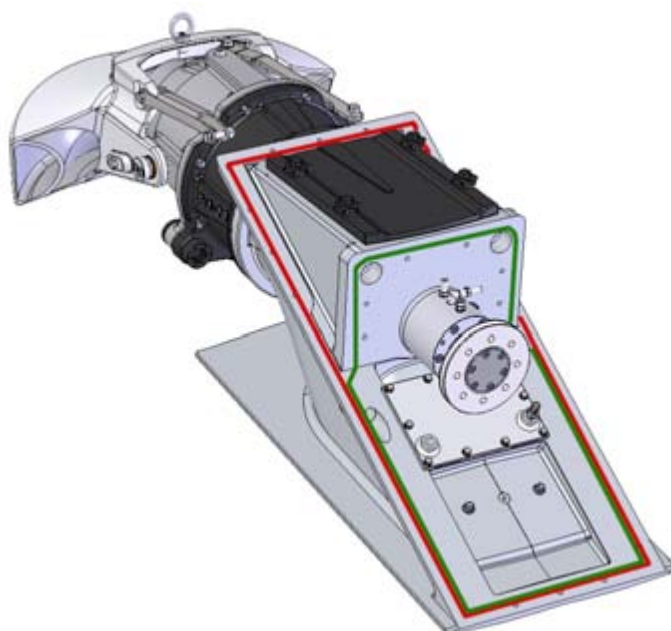

Figure 17. Surfaces to be sealed
1. Spread sealing compound (such as Sikaflex 221) on the fixing area, depending on which installation method you are using (figure 17, point A).